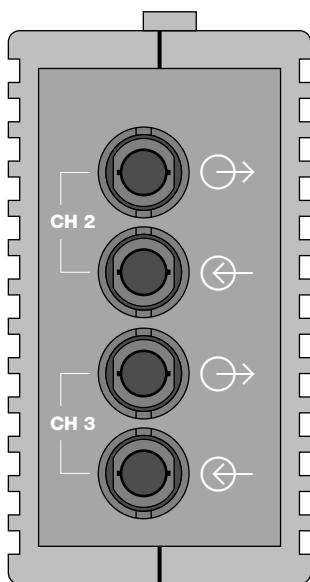

Fig. 8: View of the bottom of the module with the optical ports 2 and 3 (device with two optical ports).
- ▶ Drill three holes in the mounting plate corresponding to the drilling template in Fig. 8.